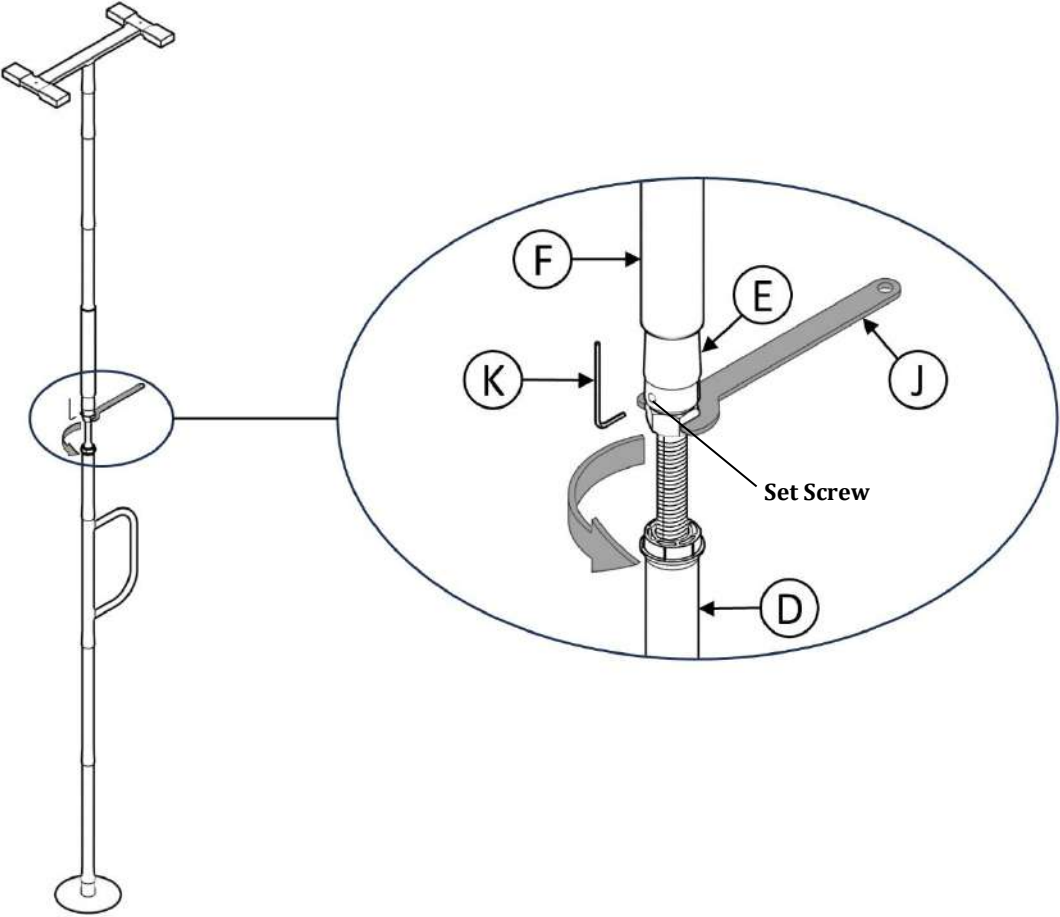

FIGURE 3
3. Ensure that the product is completely vertical (plumb), use a level if necessary, and that the handle is in the direction you want it to stay in. While holding **F** up to expose the threads and nut, align the set screw in the metal cone with the flat surface in the threads. Then rotate the nut on **D** counterclockwise using **J** as shown in *FIGURE 3*. The nut will move up to tighten the product against the ceiling. The product must be secured between the floor and ceiling with ABSOLUTELY NO sliding of the product between them. Tighten the set screw using tool **K**. Then slide **F** down to cover the threads. **Caution:** Do not overtighten as doing so may damage the ceiling, or this product.